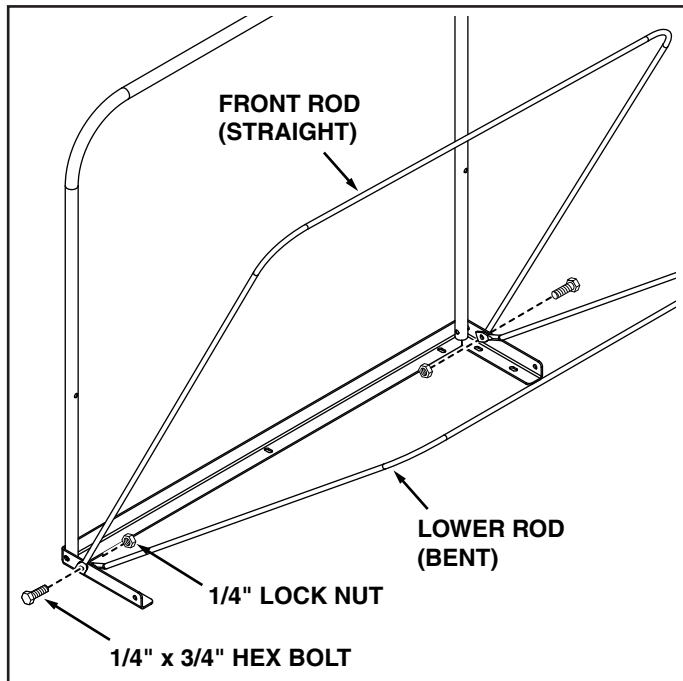

FIGURE 18
- Attach the front (straight) support rod to the **outside** of the top angle support and a lower (bent) support rod to the **inside** using two 1/4" x 3/4" hex bolts and 1/4" lock nuts. **TIGHTEN, then back nut off until rods freely pivot.** See figure 18.